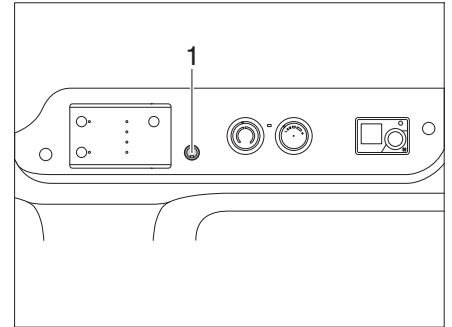
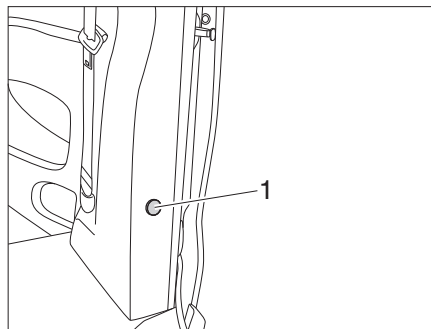

Fig. 39 Button on the operating console
Fig. 40 Button at the entrance
- Press the button at the entrance (Fig. 40,1) or the button (Fig. 39,1) downwards.
- Press the button (Fig. 39,1 or Fig. 40,1) 1× briefly.
- Press the button (Fig. 39,1 or Fig. 40,1) for approximately 3 seconds until the lowest brightness is reached.
- Keep the button (Fig. 39,1 or Fig. 40,1) pressed until the desired brightness is reached.